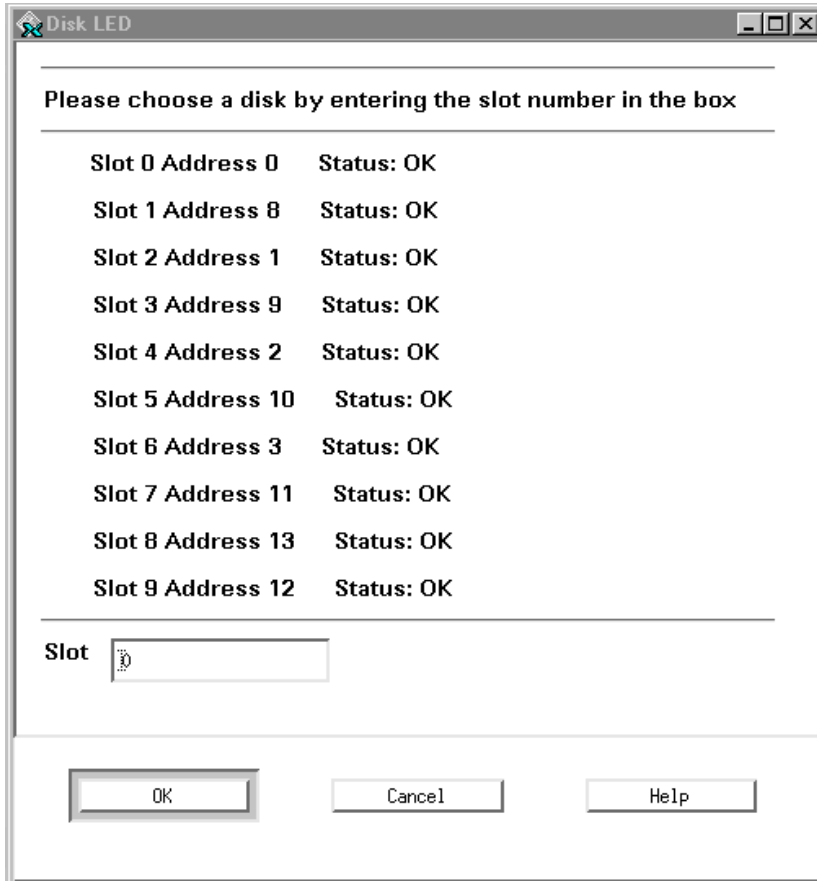

Figure 39 STM Disk LED Window
3. Select **Disk LED On** from the Utility menu. STM displays a numbered list including the bus ID and status of the disk slots (see Figure 39).